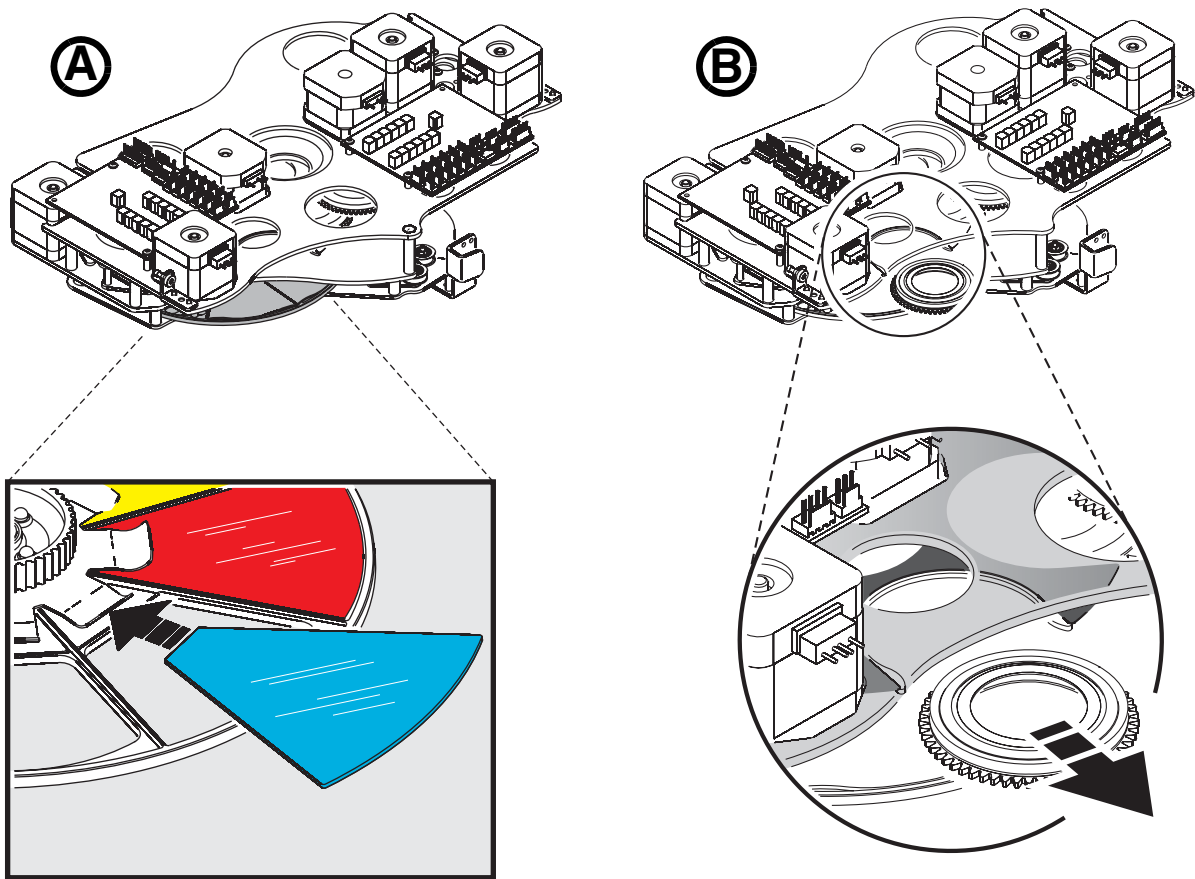

Figure 21: Color filter and gobo replacement
4. See **A** in Figure 21 on page 37. Rotate the color wheel until the filter you want to change is accessible. Lift the filter away from the color wheel slightly to release it, then grasp it by the edges and remove. If your fingers are too large, protect the glass with a piece of paper that has been folded several times and grasp the filter with needle nose pliers.
2. See **B** in Figure 21 on page 37. Rotate the relevant gobo wheel until the gobo you want to replace is accessible.
8. Check that the goboholder is the right way up (see Figure 21), then work the rim of the gobo holder under both clips and snap the gobo holder back into position on the gobo wheel. If necessary, a small screwdriver or similar tool may be used to pry the clips away from the wheel.